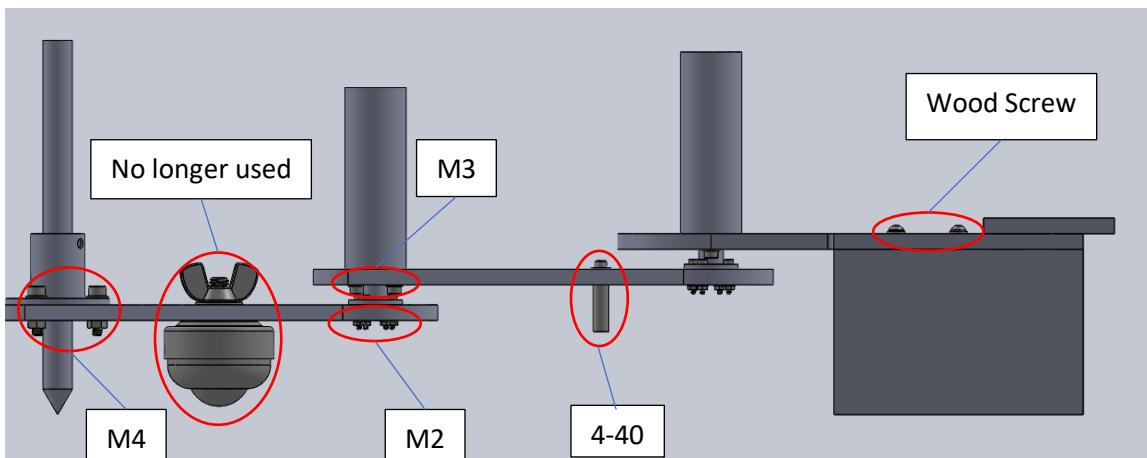

Figure 2: Fastener Labels
2. Attach base link to the wood spacer (see Figure 2-Figure 4 for reference).